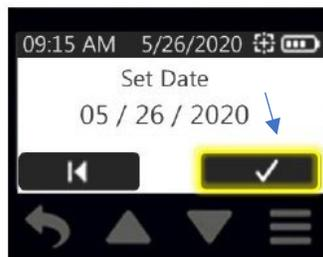

Figure 56. Accept Button
5. Touch check mark to accept new date and return to Clock Menu. The updated date will be displayed (Figure 56).